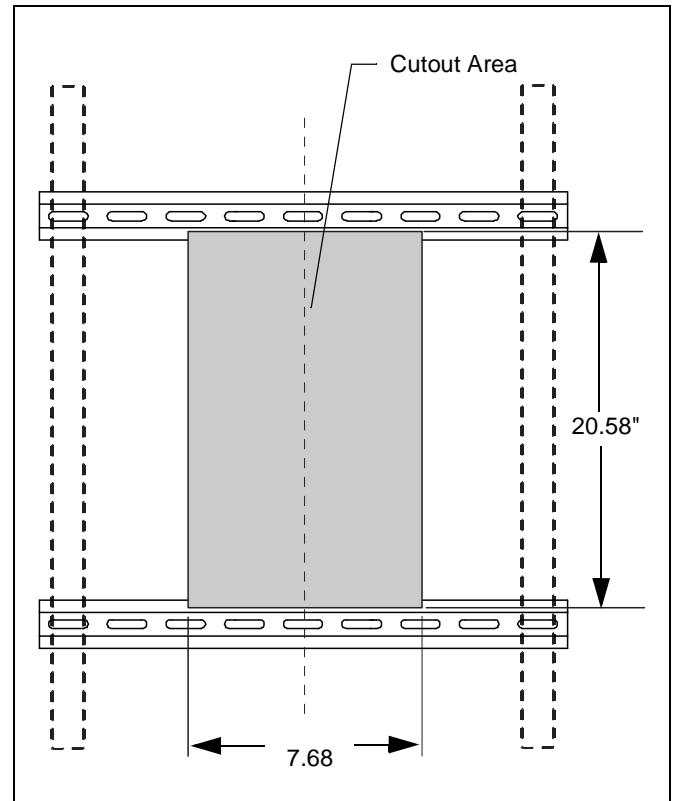

Figure 2
4. Using a level mark housing opening location on wall using the dimensions identified. (See Figure 2)